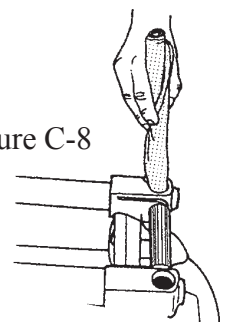

Figure C-8
3. After you apply wax to the mounting holes in the Power base mount (left and right), wrap a rag around a scrap of wood and buff out the wax thoroughly. See Figure C-8.